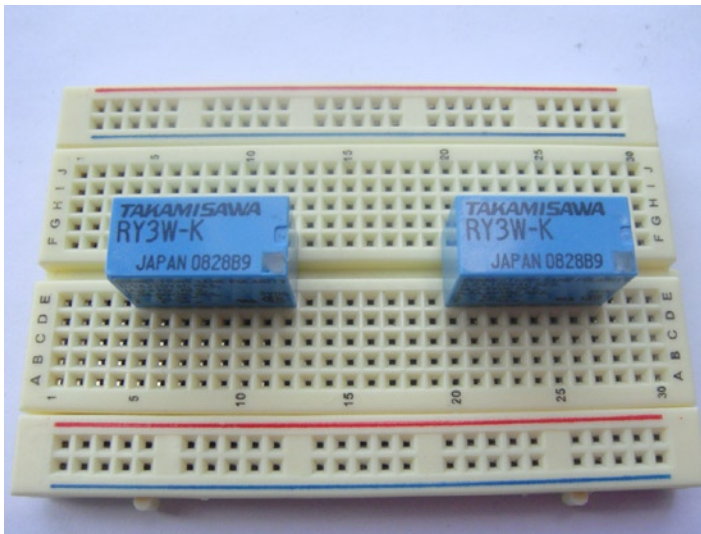

Figure 10-12. Relay placement on the breadboard
1. Place two relays into the center of your breadboard so that the relay has one side of its legs on one side of the breadboard and the other legs on the other side. Take a look at Figure 10-12 to see how I have placed my relays.